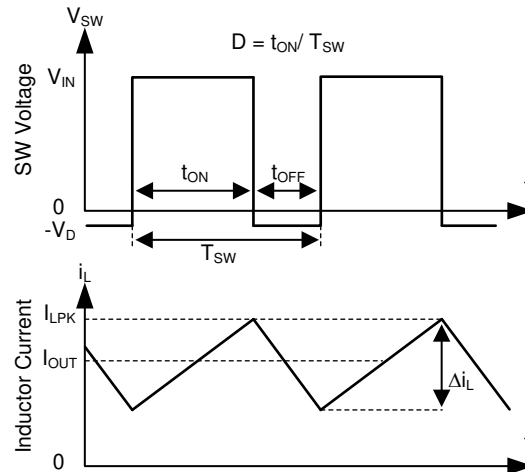

图 10-1. SW Node and Inductor Current Waveforms in Continuous Conduction Mode (CCM)
The following operating description of the TPS2583xA-Q1 will refer to the Functional Block Diagram and to the waveforms in Figure 10-1. TPS2583xA-Q1 is a step-down synchronous buck regulator with integrated high-side (HS) and low-side (LS) switches (synchronous rectifier). The TPS2583xA-Q1 supplies a regulated output voltage by turning on the HS and LS NMOS switches with controlled duty cycle. During high-side switch ON time, the SW pin voltage swings up to approximately V_{IN} , and the inductor current i_L increase with linear slope $(V_{IN} - V_{OUT}) / L$. When the HS switch is turned off by the control logic, the LS switch is turned on after an anti-shoot-through dead time. Inductor current discharges through the LS switch with a slope of $-V_{OUT} / L$. The control parameter of a buck converter is defined as Duty Cycle $D = t_{ON} / T_{SW}$, where t_{ON} is the high-side switch ON time and T_{SW} is the switching period. The regulator control loop maintains a constant output voltage by adjusting the duty cycle D . In an ideal buck converter, where losses are ignored, D is proportional to the output voltage and inversely proportional to the input voltage: $D = V_{OUT} / V_{IN}$.
The TPS2583xA-Q1 is internally compensated as shown in 图 10-1. The internal compensation is designed such that the loop response is stable over the specified operating frequency and output voltage range. The TPS2583x-Q1 is optimized for transient response over the range 300 kHz ≤ f_{sw} ≤ 2300 kHz.